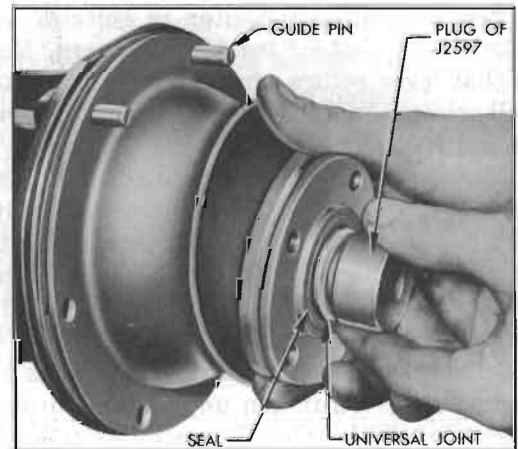

Figure 4-22—Installing Torque Ball and Retainer
5. Prepare two $\frac{3}{8}$ " headless guide pins $1\frac{3}{8}$ " long, having $\frac{3}{8}$ "-16 threads $\frac{1}{2}$ " long and screw-driver slots cut in opposite end. Install guide pins in upper bolt holes in rear bearing retainer flange. See figure 4-22.